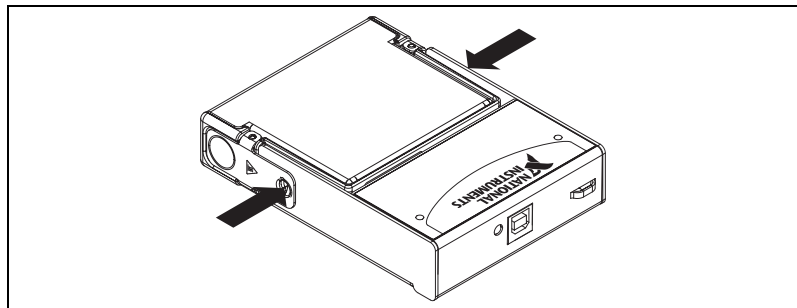

Figure 6. Locking Module into Place
5. Press firmly on the connector side of the NI 9264 module until the latches lock the module into place, as shown in Figure 6.